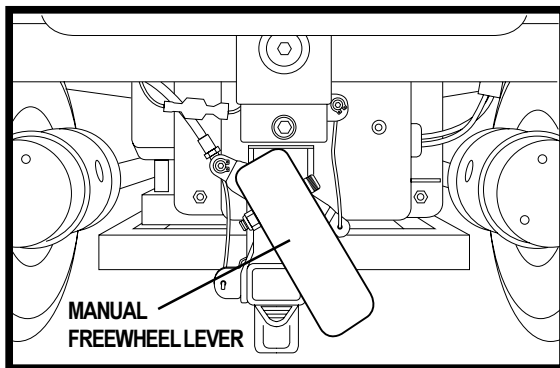

Figure 5. Freewheel Mode (Drive Disengaged)
For your convenience, your power chair is equipped with one of two manual freewheel levers. See figures 5 and 6. These levers allow you to disengage the drive motors and maneuver the chair manually.
1. Pull the manual freewheel lever out and rotate clockwise for freewheel mode (drive disengaged.) See figure 5.